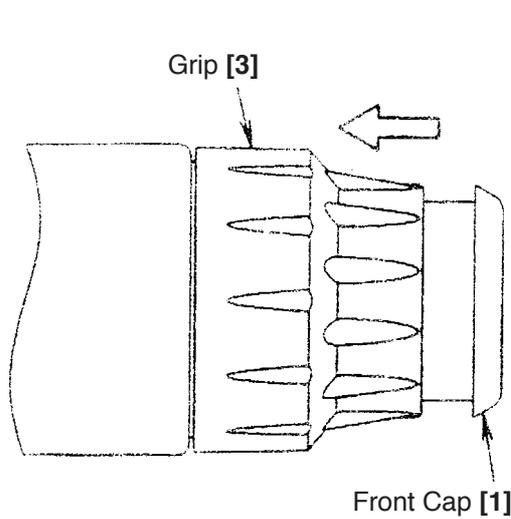
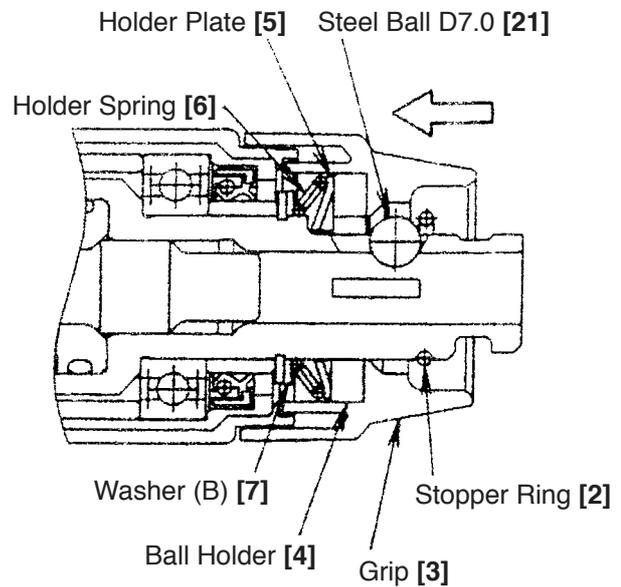

Fig. 10
Fig. 11
(2) Disassembly of the tool retainer
Slide the Grip [3] fully in the arrow direction as shown in Fig. 10 and remove the Front Cap [1]. Pulling the Grip [3] as shown in Fig. 11, remove the Stopper Ring [2] with a retaining ring puller. Then the Grip [3], Ball Holder [4], Steel Ball D7.0 [21], Holder Plate [5], Holder Spring [6] and Washer (B) [7] can be removed from the Cylinder [22].